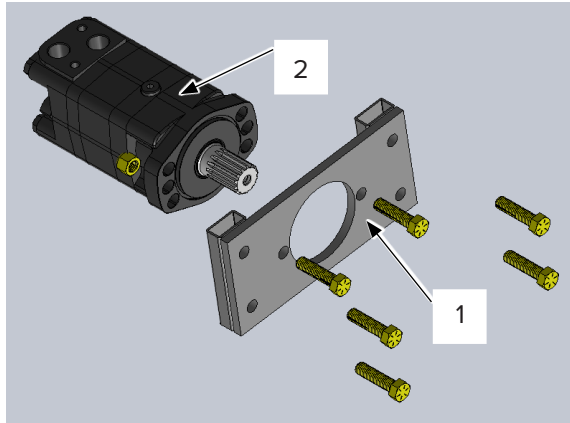

Figure 9
8. Remove the motor mount plate [Figure 9, Item 1] and its hardware from the motor [Item 2].